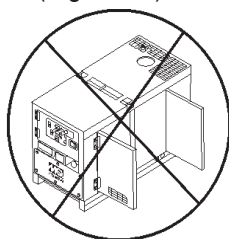

**Figure 39. Main, Aux. and GFCI Circuit Breakers (OFF)**
1. Place the **main, G.F.C.I.**, and **aux.** circuit breakers (Figure 39) in the **OFF** position prior to starting the engine.